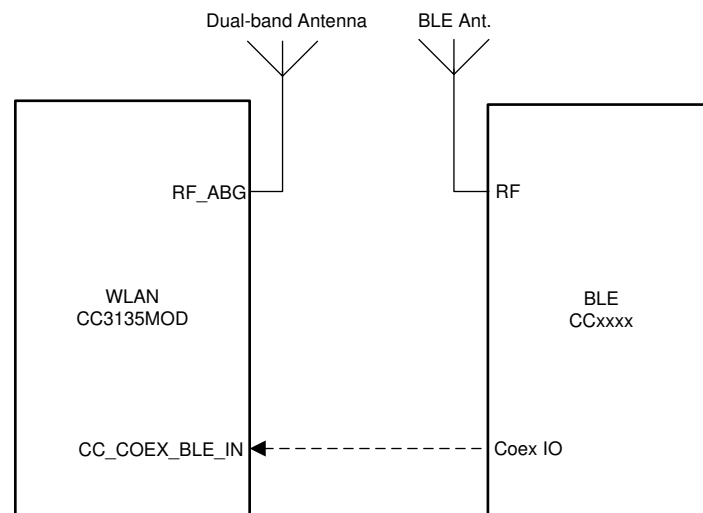

図 9-1. Dual-Antenna Coexistence Mode Block Diagram
- Dual-band Wi-Fi (see 図 9-1)
図 9-1 shows the dual antenna implementation of a complete Bluetooth® low energy and WLAN coexistence network with the WLAN operating on either a 2.4GHz or a 5GHz band. Note in this implementation no Coex switch is required and only a single GPIO from the BLE device to the CC3135 device is required.